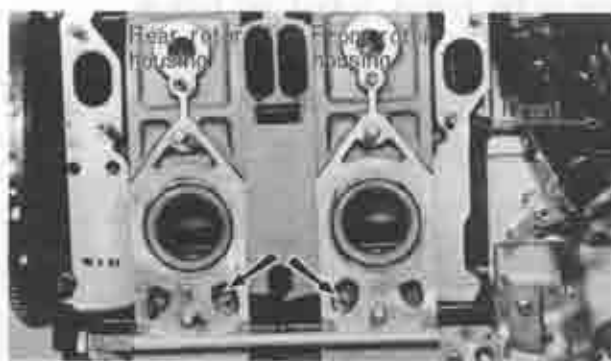

Fig. 1-61 Front and rear rotor housing
**Note:** The front and rear rotor housings are not interchangeable. Install the rotor housings as shown in Fig. 1-61.